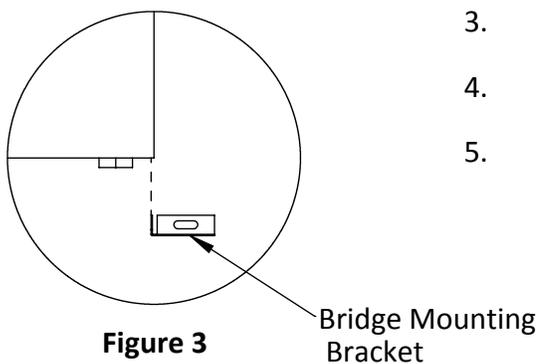

Figure 3
1. Use two or more people to place the bridge worksurface onto the connector plates attached to main units. See **Figure 3**.